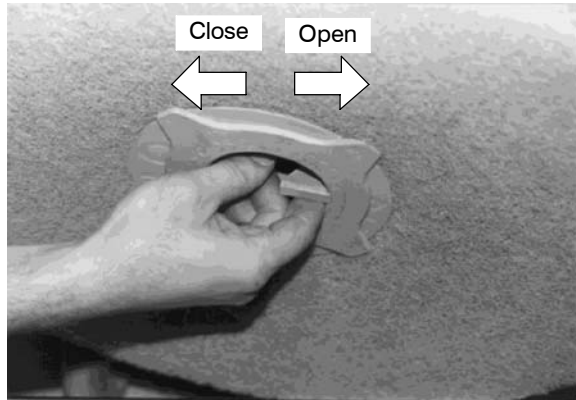

FIG. 20
1. Remove burnishing pad. Clean and replace or install a new pad (Figure 20).